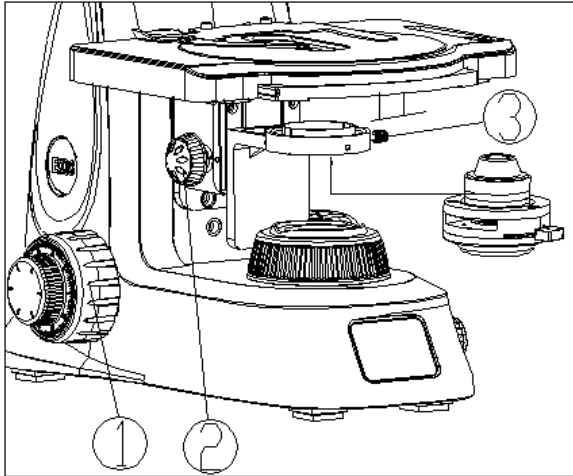

Fig. 3
Installing the Condenser - (Fig. 3)
Tighten the condenser lock-screw ③, then raise the condenser with the condenser adjustment knob to the highest position. (See Fig. 3)